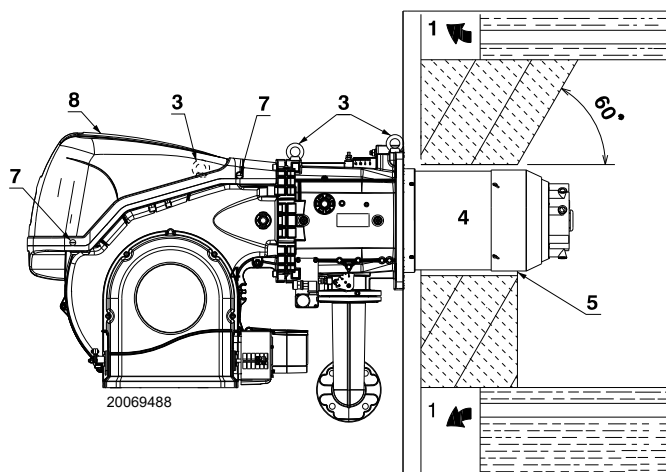

Fig. 14
For boilers with front flue passes 1)(Fig. 14) or flame inversion chamber, a protection in refractory material 5) must be inserted between the boiler fettling 2) and the blast tube 4).
For boilers with a water-cooled front piece, a refractory lining 2)-5)(Fig. 14) is not necessary, unless expressly requested by the boiler manufacturer.
Prepare a suitable lifting system using the rings 3) (Fig. 14), after removing the fixing screws 7) of the casing 8).
- Fit the heat insulation supplied onto the blast tube 4)(Fig. 14).